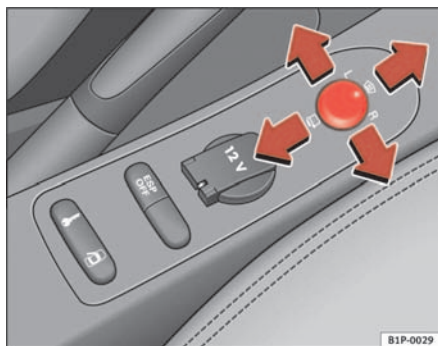

Fig. 86 Exterior mirror control
1. Turn knob ⇒ fig. 86 to position **L (left exterior mirror)**.
- Turn the knob forwards to the central position ⇒ fig. 86  so that the heated rear view mirrors warm up and the heated windscreen\* in the wiper blade rest area is activated ⇒ page 120.
- Turn the control ⇒ fig. 86 to position  to fold in the exterior mirrors. You should always fold in the exterior mirrors if you are driving through an automatic car wash. This will help prevent damage.